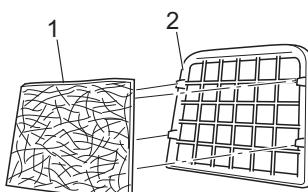

Fig.25
6. Insert the new protective motor filter (Fig. 25/1) into the filter holder (Fig. 25/2) and push the holder back into the locking rails again.